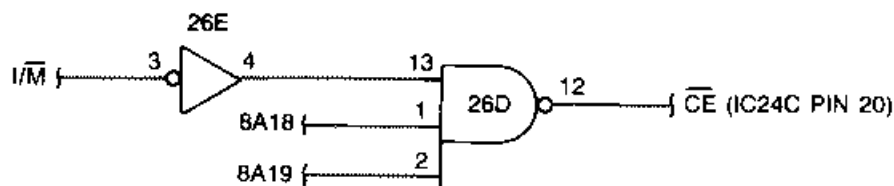

FIGURE 2-32. 8088 BIOS ENABLE CIRCUIT
2.3.2.3 8088 BIOS Enable Circuit (Figure 2-32)